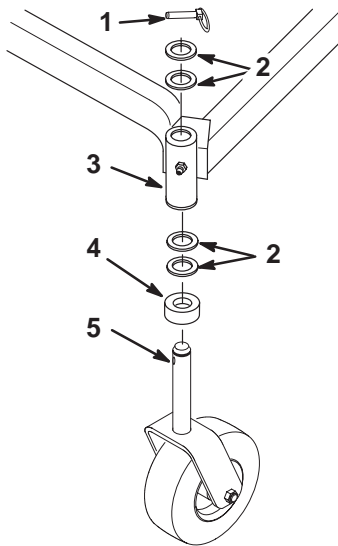

Figure 28
2. Remove the locking pin and thrust washer(s) from the top of the castor wheel fork (Fig. 28).
6. Inspect the castor wheel fork for wear and replace if necessary (Fig. 28).
7. Slide the castor wheel fork through the bushings in the mounting tube. Replace the thrust washer(s) onto the fork and secure with the locking pin (Fig. 28).